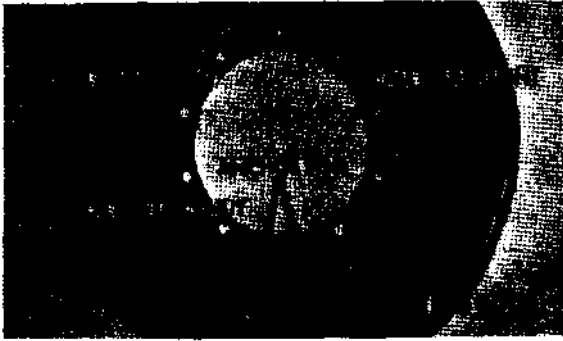

Figure 330. Removing anchor pin locknuts at backside of backing plate assembly
- (3) If clearance between shoe and drum is incorrect, adjust clearance (a) and (b) below.
- (a) Loosen rear anchor pin locknut (fig. 330) at back side of backing plate.
- (7) Holding anchor pins (fig. 330), to prevent them from turning, tighten both anchor pin locknuts and check brake-shoe clearances again.